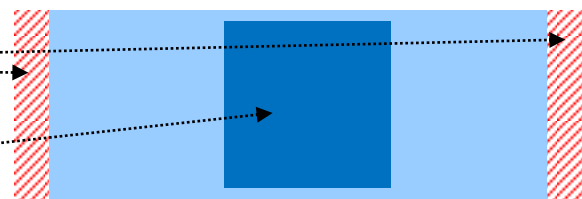

Fig 1.
- Make sure the coverslip is centered on the slide. See Fig 1.